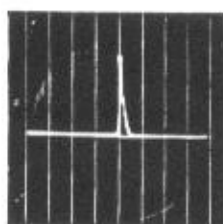

Fig. 4
**SERIES PARALLEL FILTER**—The series parallel filter is of the usual type with a high degree of efficiency. Fig. 4 shows the series position set at maximum selectivity. The selectivity shown may be decreased considerably by use of the phasing control. The Series Filter gives the ideal condition of noise reduction and selectivity for code reception. Fig. 5 and Fig. 6 show the selectivity when crystal is not in use.